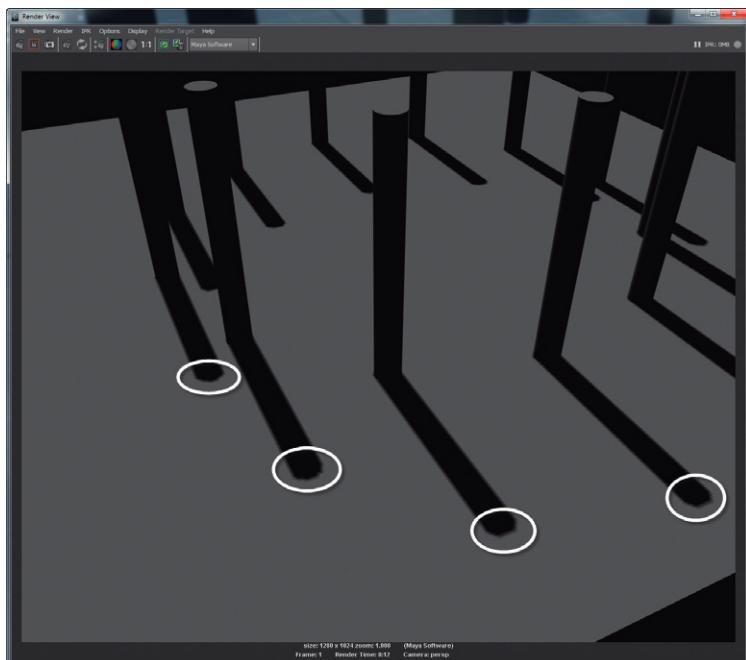

FIG 7.17 Using the default Depth Map Shadow resolution of 512, the low resolution begins to be very visible when using the Directional Light.
Third, upon a closer look, the shadows are looking a little dirty. Take a look at Fig. 7.17 and look at the highlighted areas. Now this render has the Filter setting reduced back to 1 (from the 6 your scene is probably using). But it helps show how the shadow map really does have a resolution – and a small one (512) by default. With the Spot Light, or even Point Light, this 512 resolution is spread out over a much smaller area and is harder to see the actual pixels of the map. But with a Directional Light, suddenly, the shadow map is spread out over every object in the scene and the low resolution begins to pop a bit more. So for Directional Lights – when using Depth Shadow Maps, some adjustments need to be made.